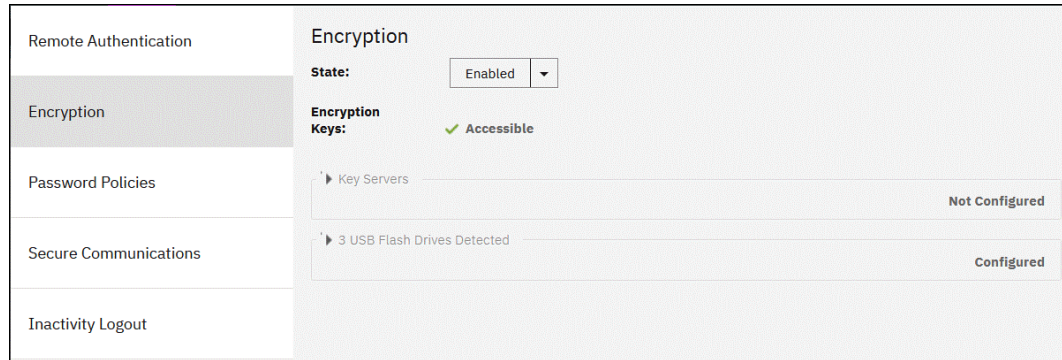

Figure 12-28 Encryption view that uses USB flash drives as the enabled provider
5. You can confirm that encryption is enabled and verify which key providers are in use by selecting **Settings** → **Security** → **Encryption**, as shown in Figure 12-28.